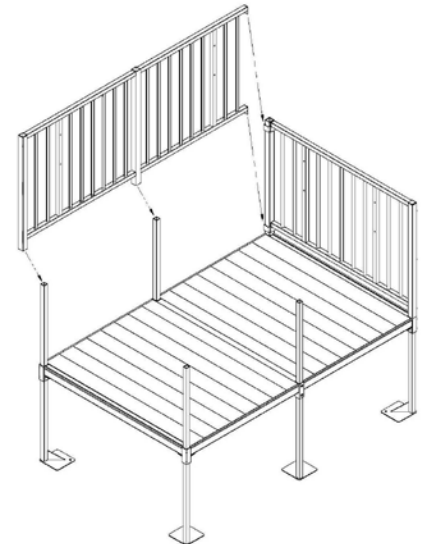

Fig. 4
- 2.2 For the 8' platform guard, the center post in the guard is installed over the leg in the center of the 8' side of the platform (Fig. 4).